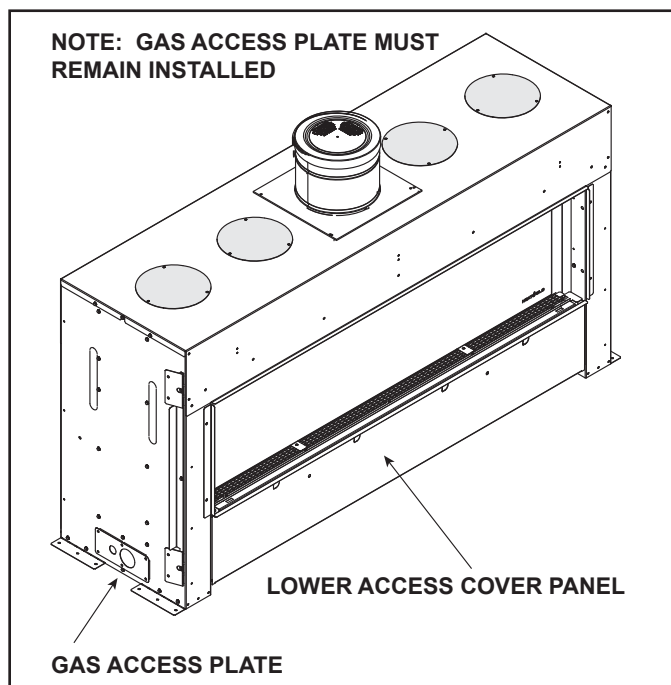

Figure 9.7 Gas Access Location - Left Side
- Refer to Figure 9.7 for location of gas line access in appliance.